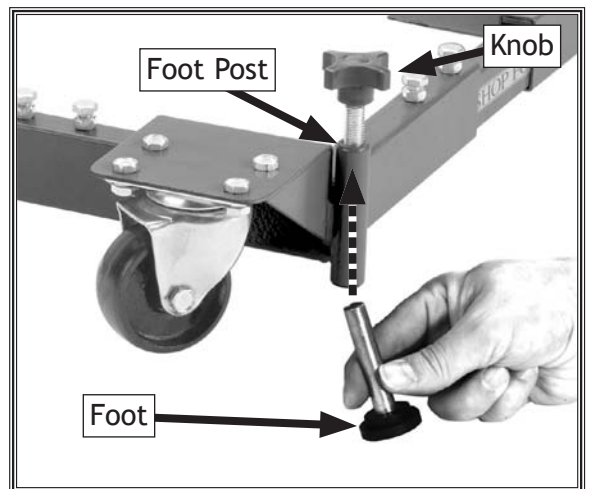

Figure 12. Installing foot pad and knob into a foot post.
9. Thread a knob into the top of a foot post several turns, then insert a foot into the bottom of the foot post, as shown in Figure 12. The knob shaft should pick up the foot when it comes in close proximity since the top of the foot is magnetized.
1. Thread each knob several turns into the foot posts, as shown in **Figure 12** in *Assembling Base* on **Page 5**.
2. Insert a foot into the bottom of each foot post (see **Figure 12** on **Page 5**). The knob should pick up the magnetic shaft of the foot when it gets close.